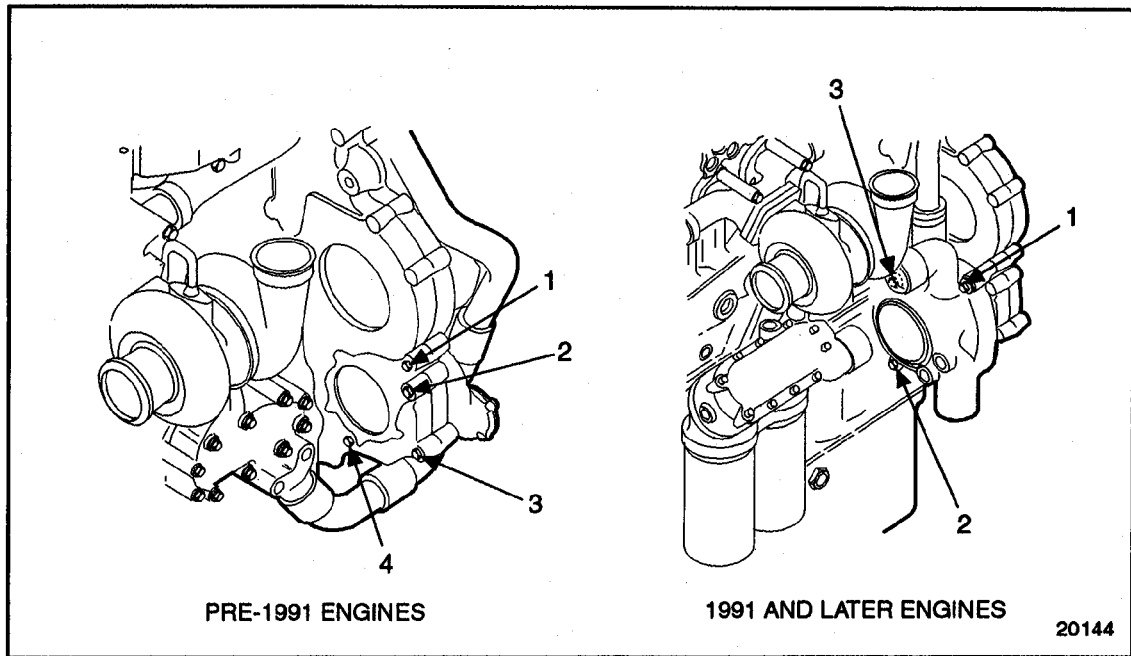

Figure 1-170 Gear Case Cover Bolt Torque Sequence (Right Rear)
- [h] Install the two rear mounted bolts (pre - 1991 engines only) bolts on the exhaust (right) side of the engine. Torque the number 2 and 3 bolts to 58-73 N·m (43-54 lb-ft) torque. See Figure 1-170.